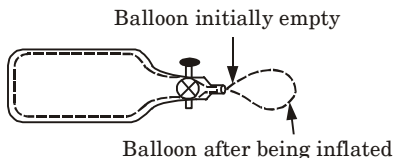

Fig. 1.20.1.
- Fig. 1.20.1 shows the boundary of system before and after filling balloon by firm line and dotted line respectively.